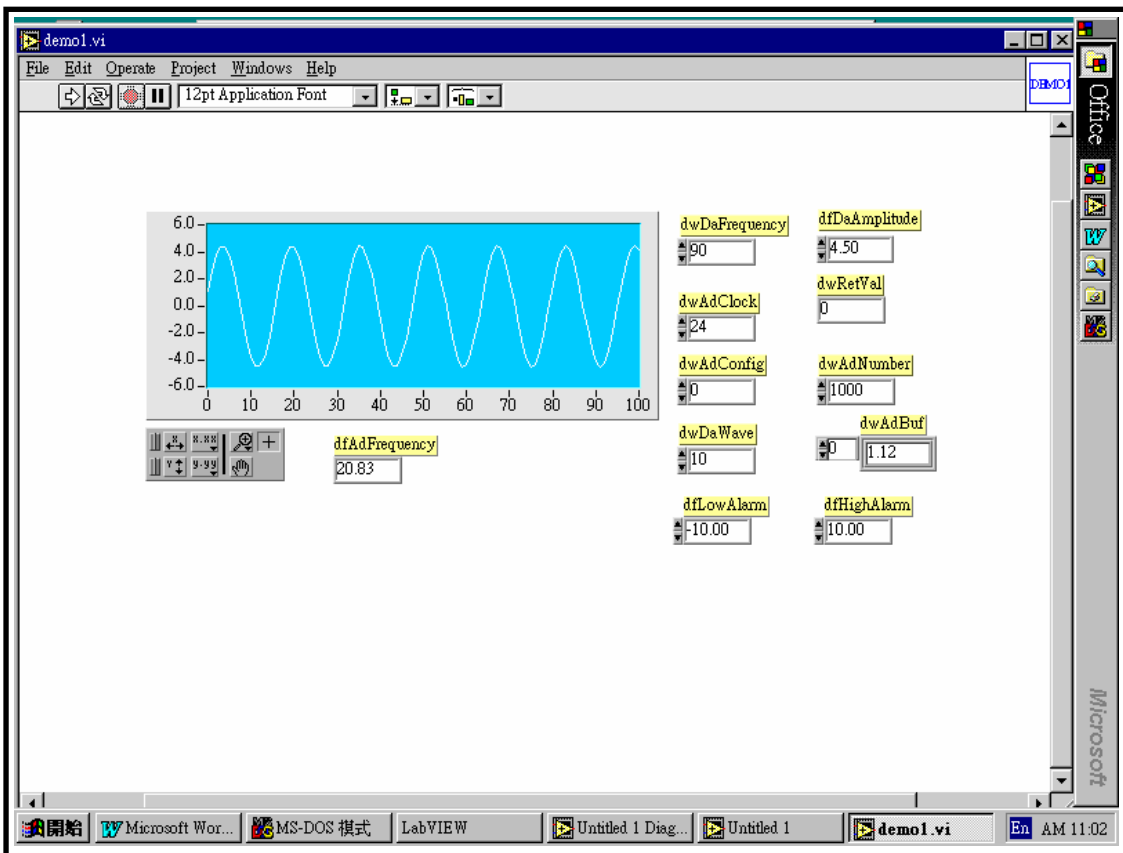
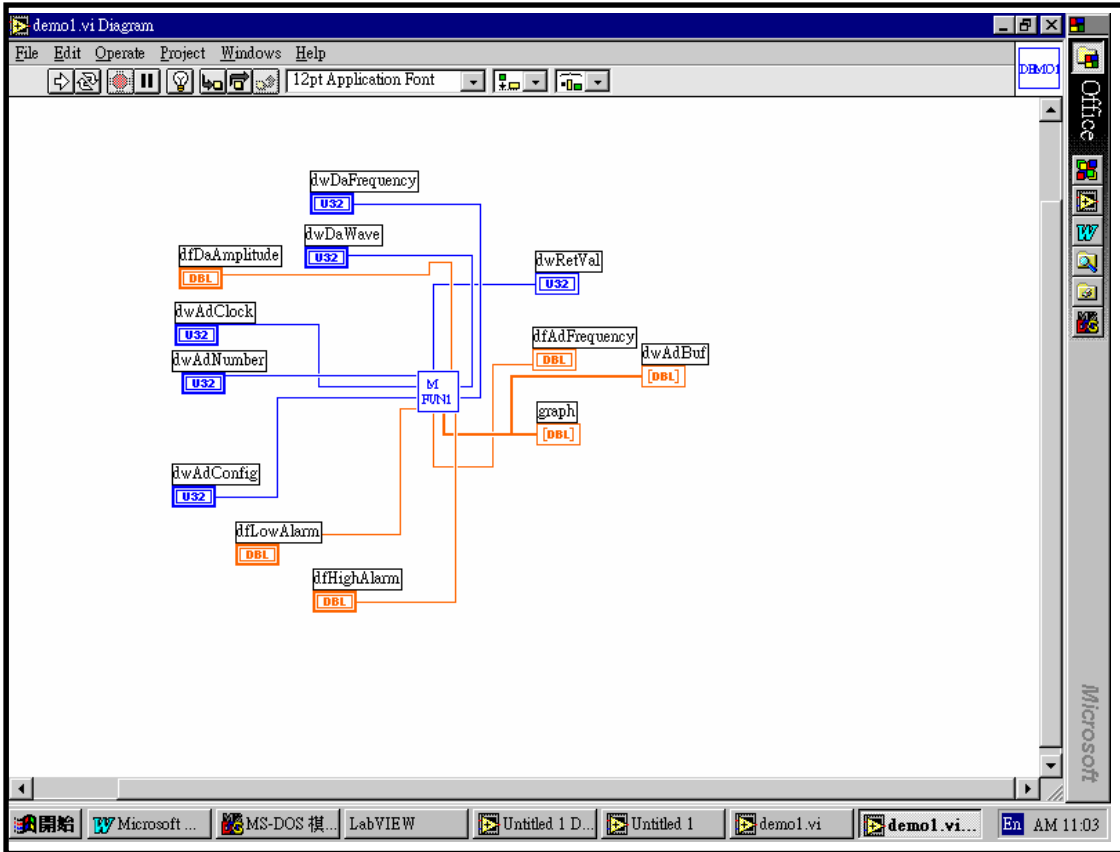

Fig 8. The Output of DEMO1.VI (call M\_FUN\_1)
Fig 9. The Connection Diagram of DEMO1.VI (call MFUN1.VI)
2. The demo1.VI will call MFUN1.VI to perform M\_Functions. The M\_Functions can send an arbitrary waveform to the D/A output and perform A/D input at the same time. If D/A channel\_0 is connected to A/D channel\_0, M\_Functions can measure the D/A output back. The output response is shown in Fig 8 and the connection diagram for demo1.VI is given in Fig. 9.